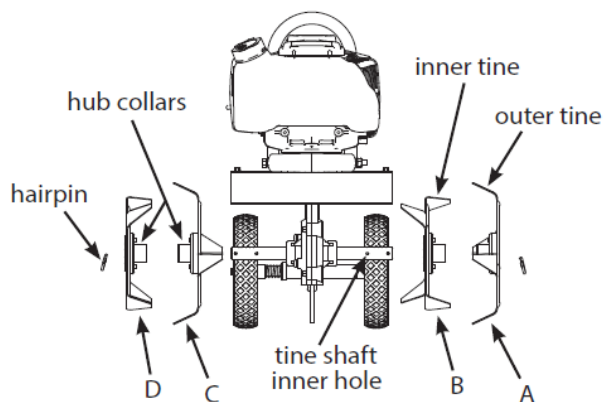

Figure 14
1. Remove the hairpins from each end of the tine shaft (**Figure 14**).
1. First slide the inside tines onto each end of the tine shaft (**Figure 14**). One inside tine is stamped with a B and the other is stamped with a C.